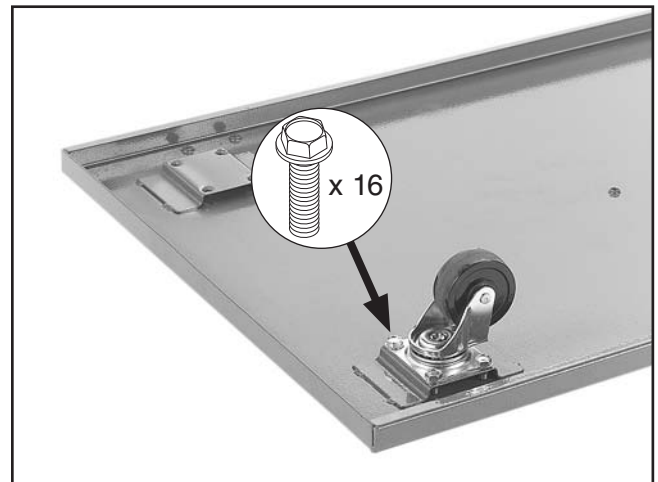

Figure 11. Caster installed on base.
2. Attach the casters to the base with (16) $\frac{5}{16}$ -18 x $\frac{1}{2}$ " flange bolts, as shown in **Figure 11**.